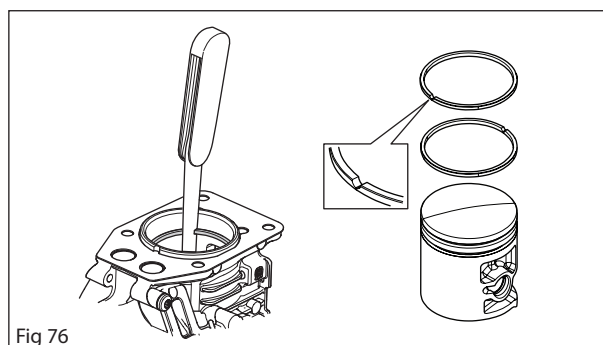

Fig 76
- Remove the piston ring from the piston to measure the wear. Use the base of the piston to push the piston ring down into the cylinder. The opening in the ring must not exceed 1 mm. Put the piston ring back into the piston slot and make sure it is the right way around. See Figure 76.